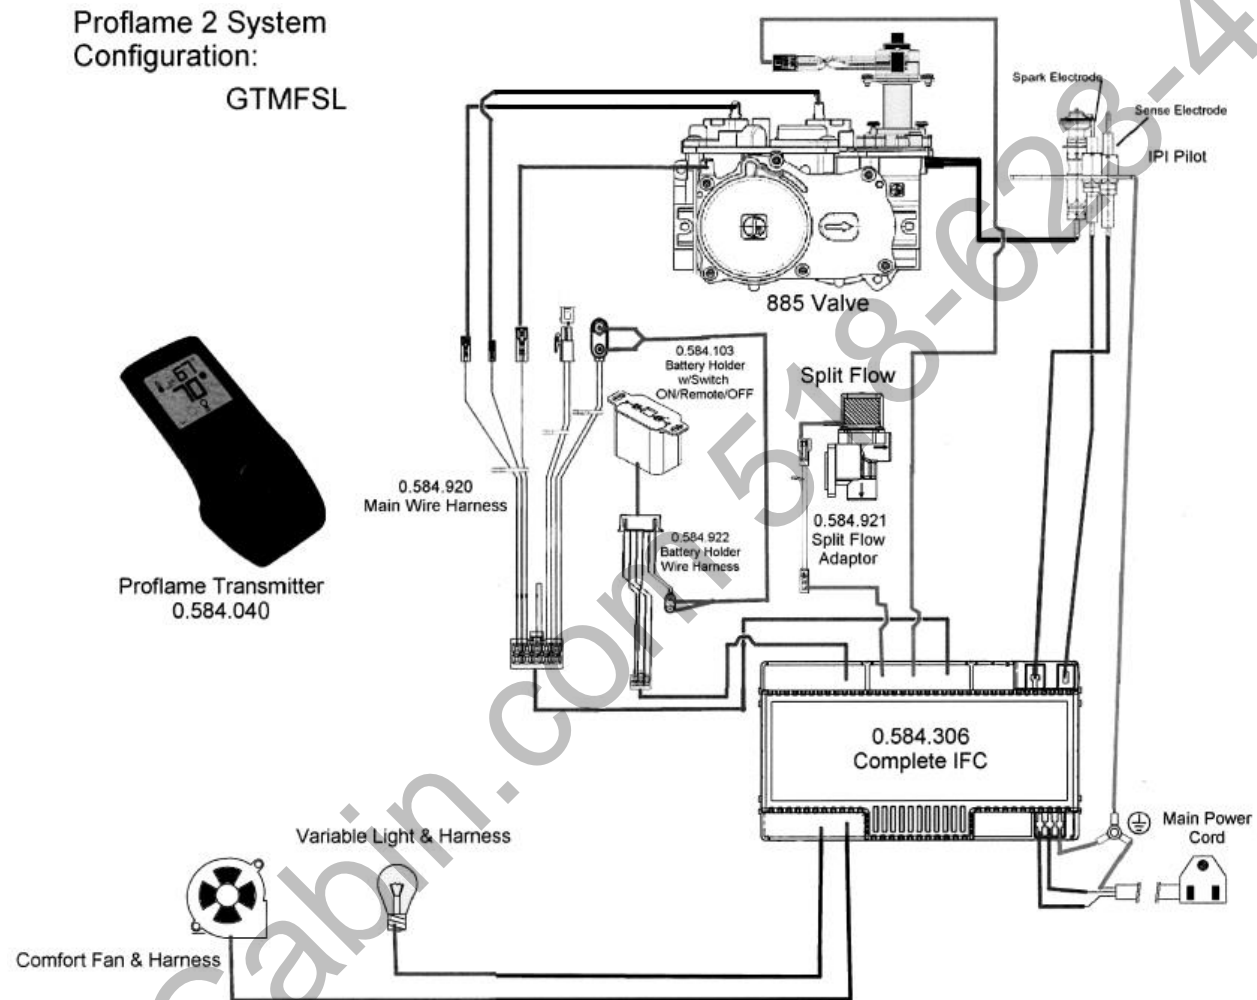

Figure 24 - Bristol 8762 Wiring Diagram
- The termination must fall within the chart in Figure 24.
- The termination must fall within the chart shown in Figure 24.